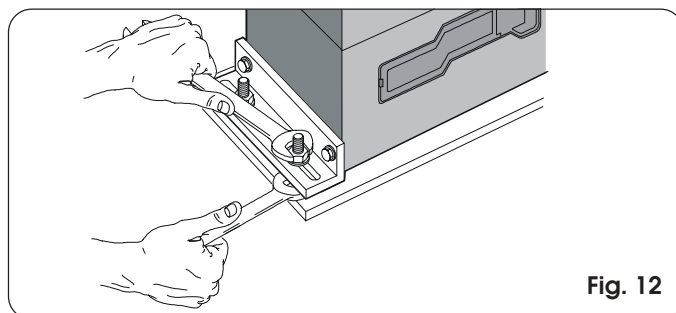

Fig. 12
- 5) Secure the gearmotor to the foundation plate, tightening the nuts as in Fig. 12.